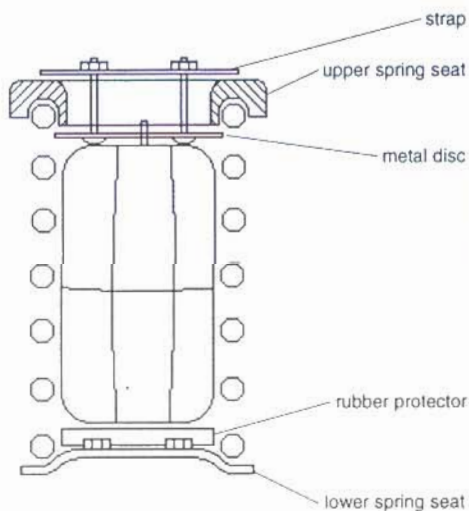

Figure 2
STEP 4 Insert metal disc at the top of the coil just under the upper spring seat (fig.2). This metal disc can be bolted in place using the carriage bolts and straps provided.